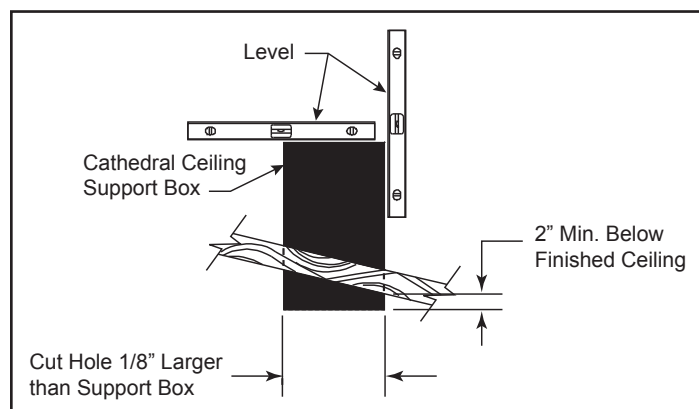

Figure 38
Step 4 - Lower the support box through the hole in the roof until each side of the bottom of the support box protrudes at least 2" (51 mm) below the ceiling, Figure 38. Align the support box both vertically and horizontally with a level. Temporarily tack the support box in place through the inside walls and into the roof sheathing.